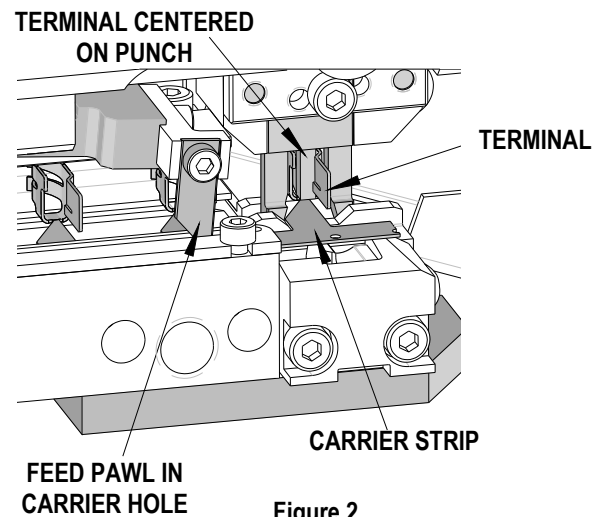

Figure 2
4. By hand, push the terminal strip through the track until the first terminal is in-line with the cutoff tooling. At this time, the feed pawl should be in the carrier hole. See Figure 2.